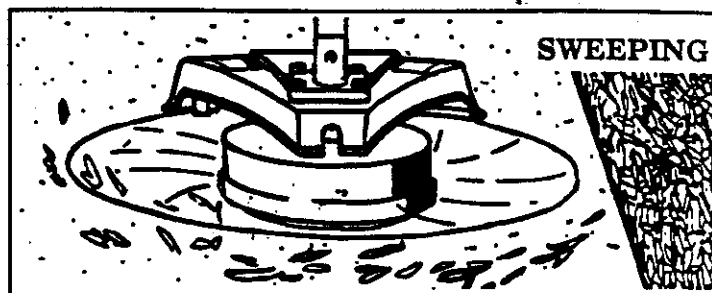

Figure 20
4. **SWEEPING** - Figure 20. The fanning action of the rotating line can be used for a quick and easy clean up. Keep the line parallel to and above surfaces being swept and move unit from side to side.